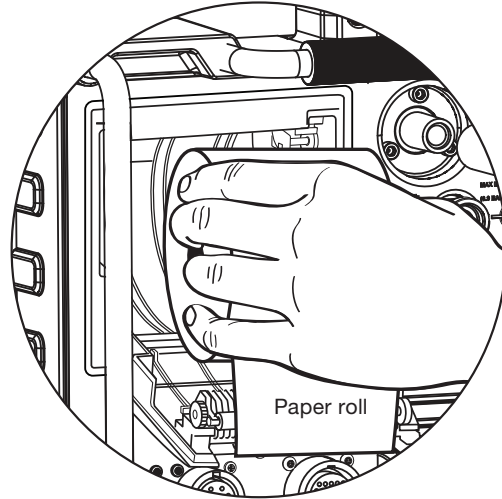

Fig. 52—Loading the Paper Roll
3. Place new paper roll into printer as shown (Fig. 52). Ensure paper roll is inserted so that the paper feeds from the top